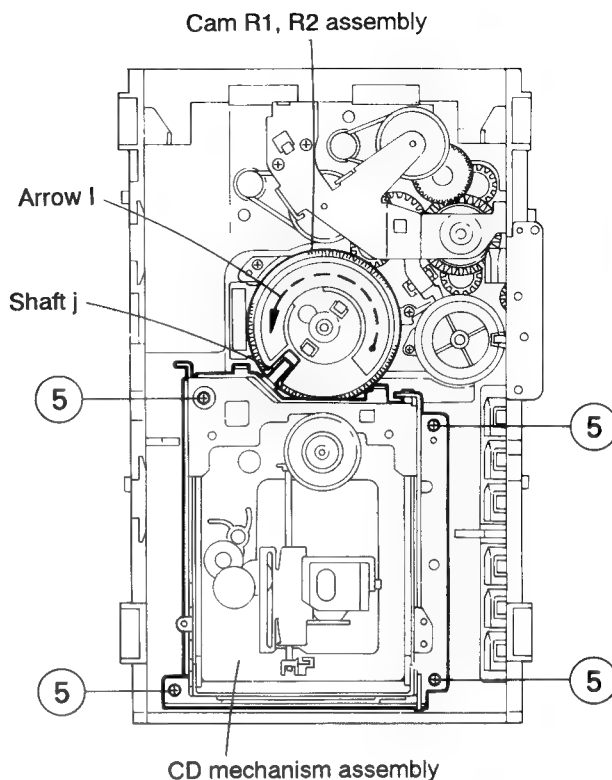

Fig. 2-16
## ■ Removing the CD mechanism assembly (See Fig. 2-16)
1. While turning the cams R1 and R2 assembly in the arrow direction (I), align the shaft (J) of the CD mechanism assembly to the position shown in Fig. 2-16.
2. Remove the four screws (5) retaining the CD mechanism assembly (See Fig. 2-16).